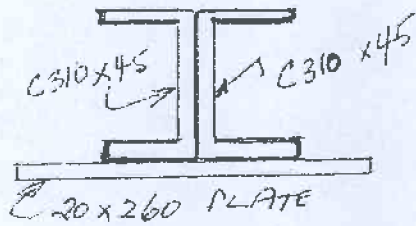

FIGURE A1
- A1. Figure A1 shows a steel cross-section fabricated from two back-to-back, C310 x 45 steel channels, welded to one plate, 20 mm thick x 260 mm wide. Determine the section moments of resistance about the two centroidal axes, x-x and y-y. All steels are G40.21 350W grade.